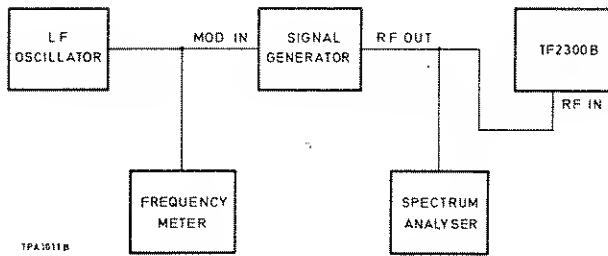

Fig. 4.3 Bessel zero measurement
(1) Connect the signal generator, externally modulated by the l.f. oscillator, to the inputs of the modulation meter and the spectrum analyser, as shown in Fig. 4.3.